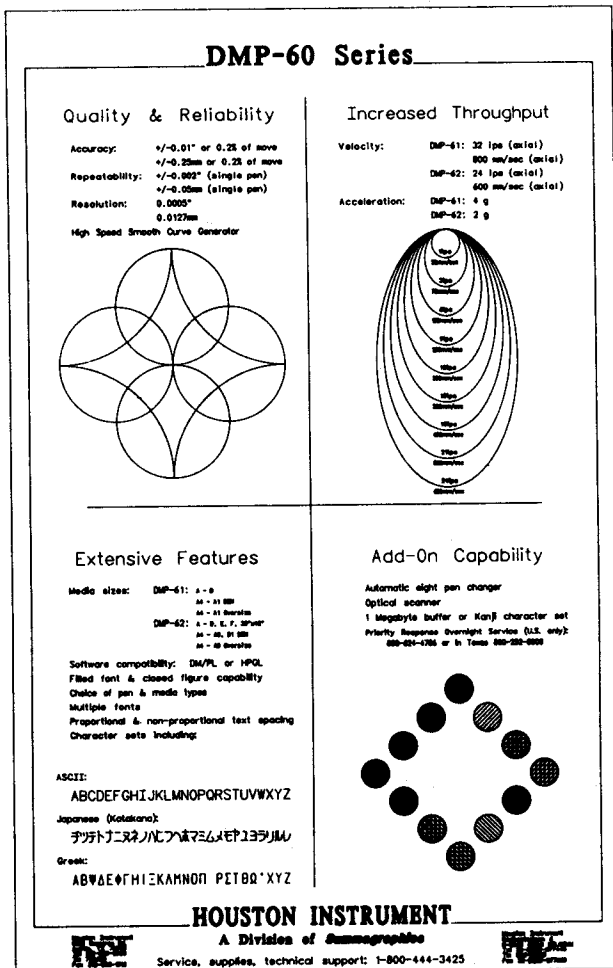

FIGURE 0-6. CUSTOMER CONFIDENCE TEST PLOT
- ☐ Simultaneously press the control panel ▼ and ▲ keys to start the customer confidence test plot. Refer to Figure 0-6.